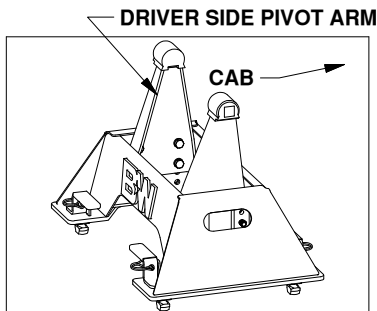
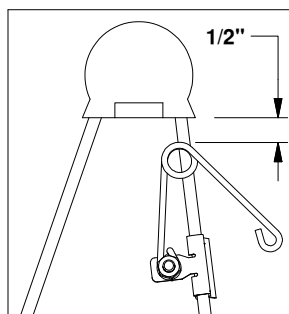

Figure B3: View of base.
Figure B4: Driver side pivot arm.
- 2. Attach kit.** Locate the flange which will be closest to the truck cab on the driver side pivot arm, see Figure B3. The clip should be placed so that when the spring's coil is in the line with the edge of the arm there will be 1/2" of clearance between the bottom of the polyurethane bushing and the top of the spring, see Figure B4. Drive the clip securely onto the flange with a hammer.